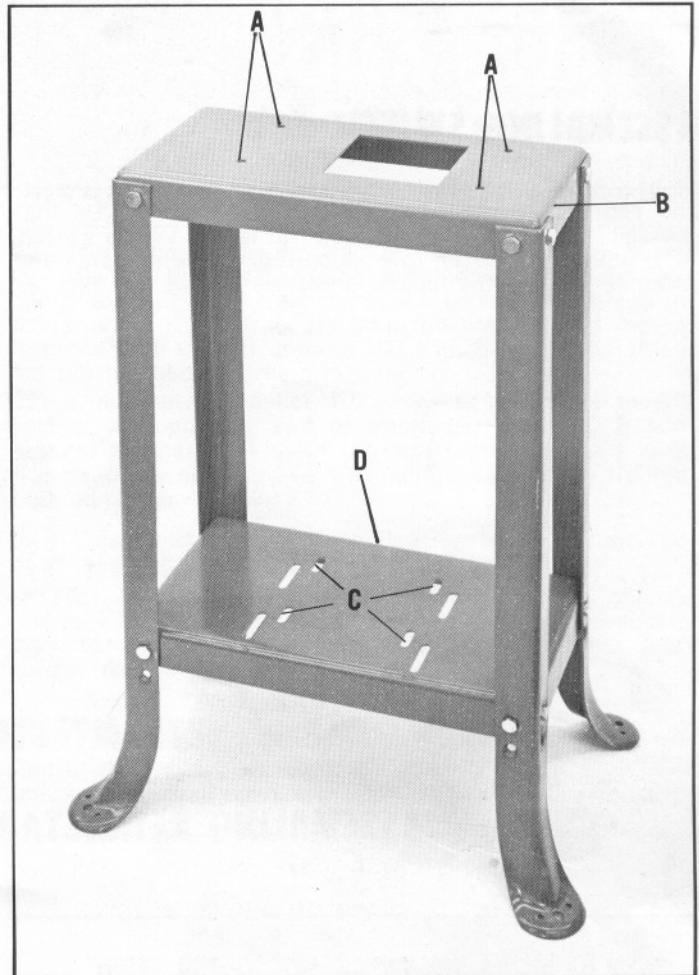

Fig. 2.
If you purchased the 50-328 Stand, assemble it as shown in Fig. 2. Make sure the lower shelf is fastened to the upper set of bolt holes in the legs as shown. Note the relationship of the holes and slots in both the upper and lower shelves, as shown in Fig. 2, to make sure the shelves are assembled properly.
Assembling the saw to the top shelf of the stand using the four holes (A) Fig. 2. The front of the saw will be toward the end of the top shelf marked (B) Fig. 2.
1. Fasten the motor to the lower shelf using the four slots (C) Fig. 2, with the shaft end of the motor toward the end of the shelf marked (D).